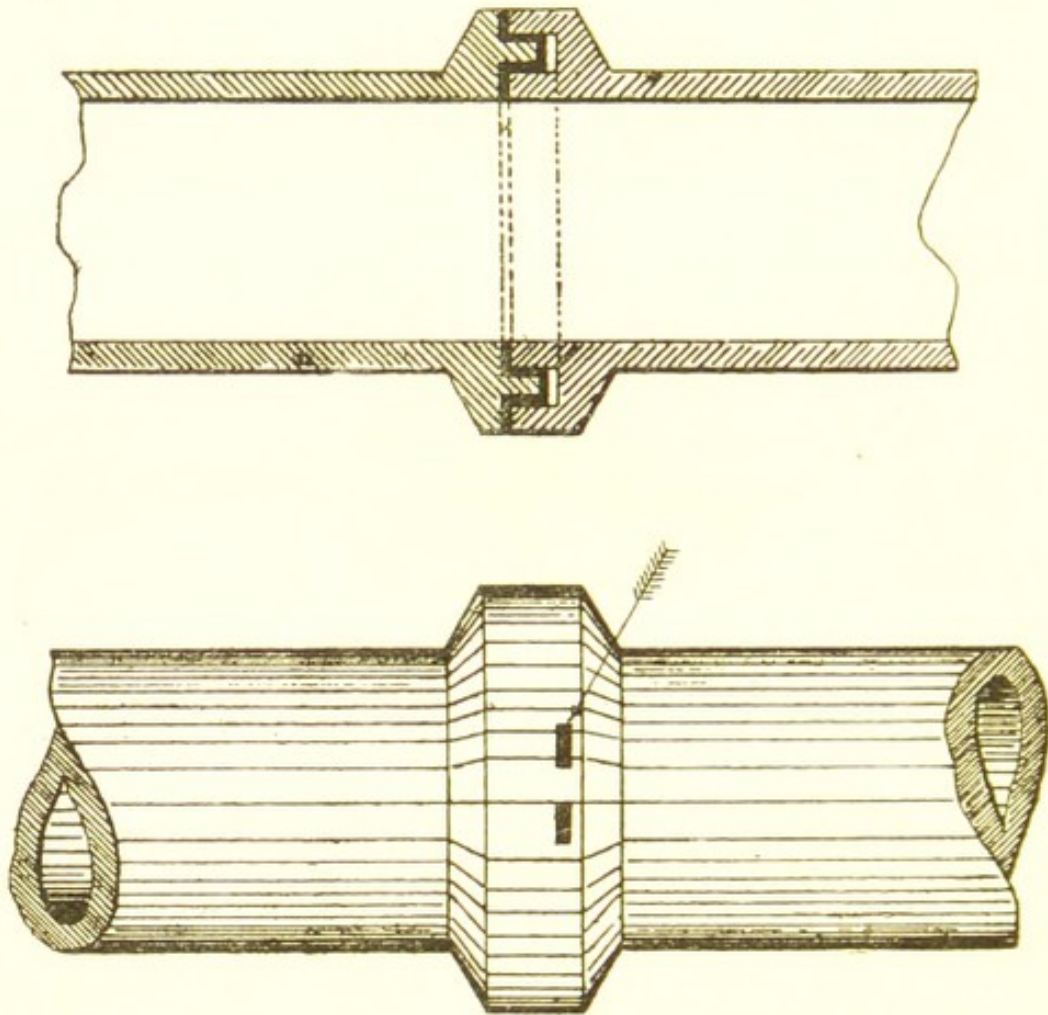

FIG. 8.
*Archer's Patent Air and Water Tight Joint* (Fig. 8) is formed by an annular space between spigot and socket, into which liquid cement is run by a hole in the collar of the socket. A second hole in the collar, close to that by which the cement is poured